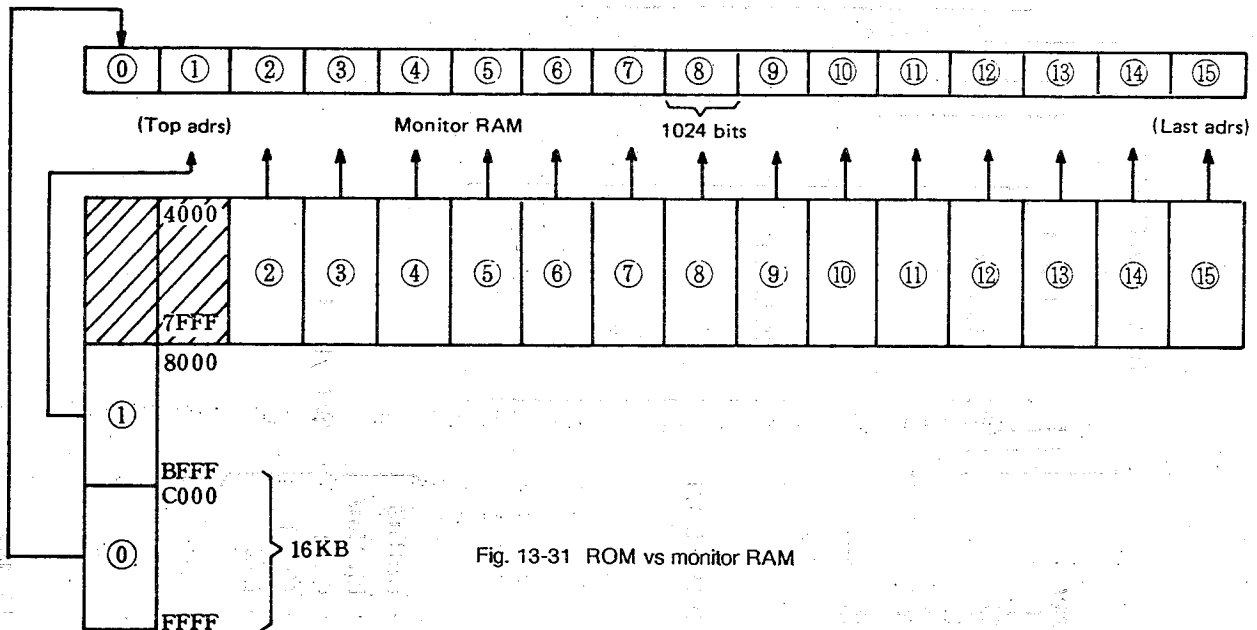

Fig. 13-31 ROM vs monitor RAM
* If the mark address (destination address of the write command) is a bank in ROM, the signal is a high level. As shown in the Fig13-31, a 16KB area of the ROM corresponds to 1K bits of the monitor RAM. This indicates that a continuous 16KB ROM area cannot be discriminated from the monitor RAM. This is for holding the total bit number of the monitor RAM to a minimum. So, an SSP interrupt issued for the command included in the same 16KB block, not the mark address originally. The unwanted SSP interrupt returns without doing anything during an SSP interrupt as the address specified by the mark address differs from the return address.